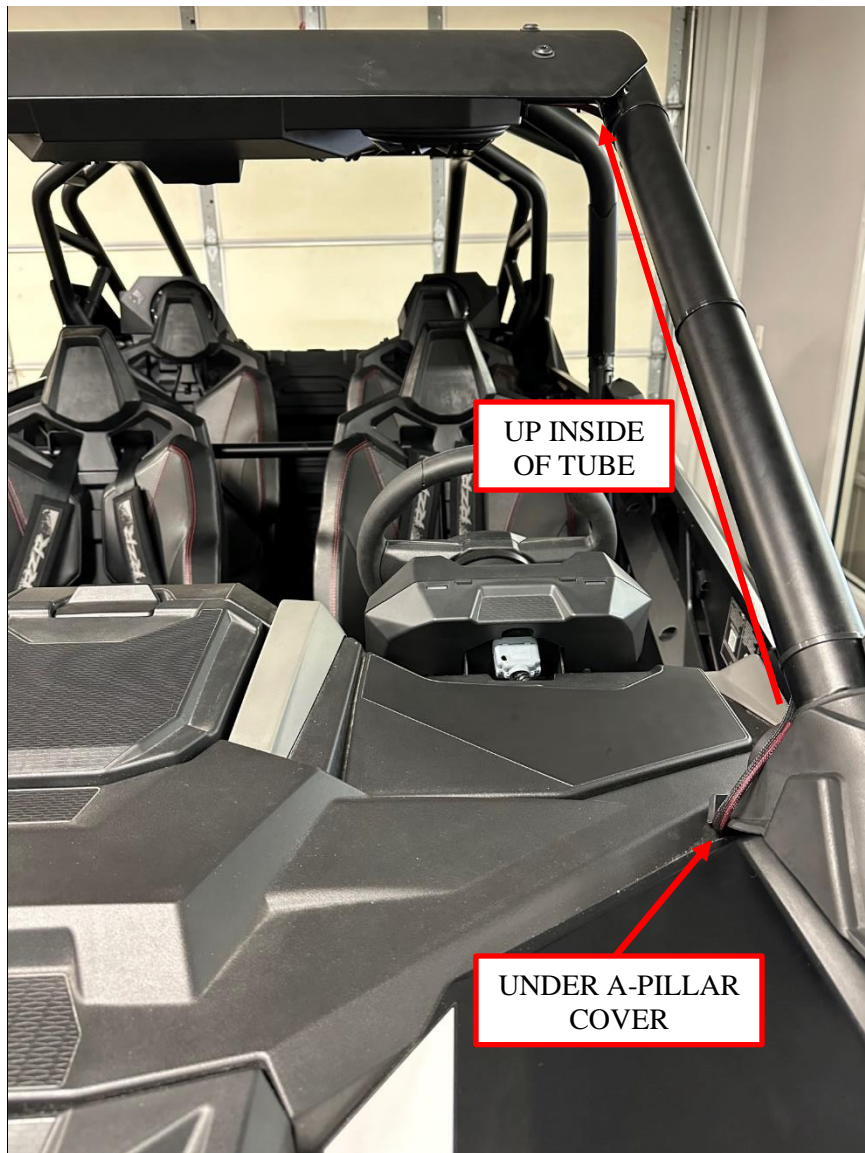
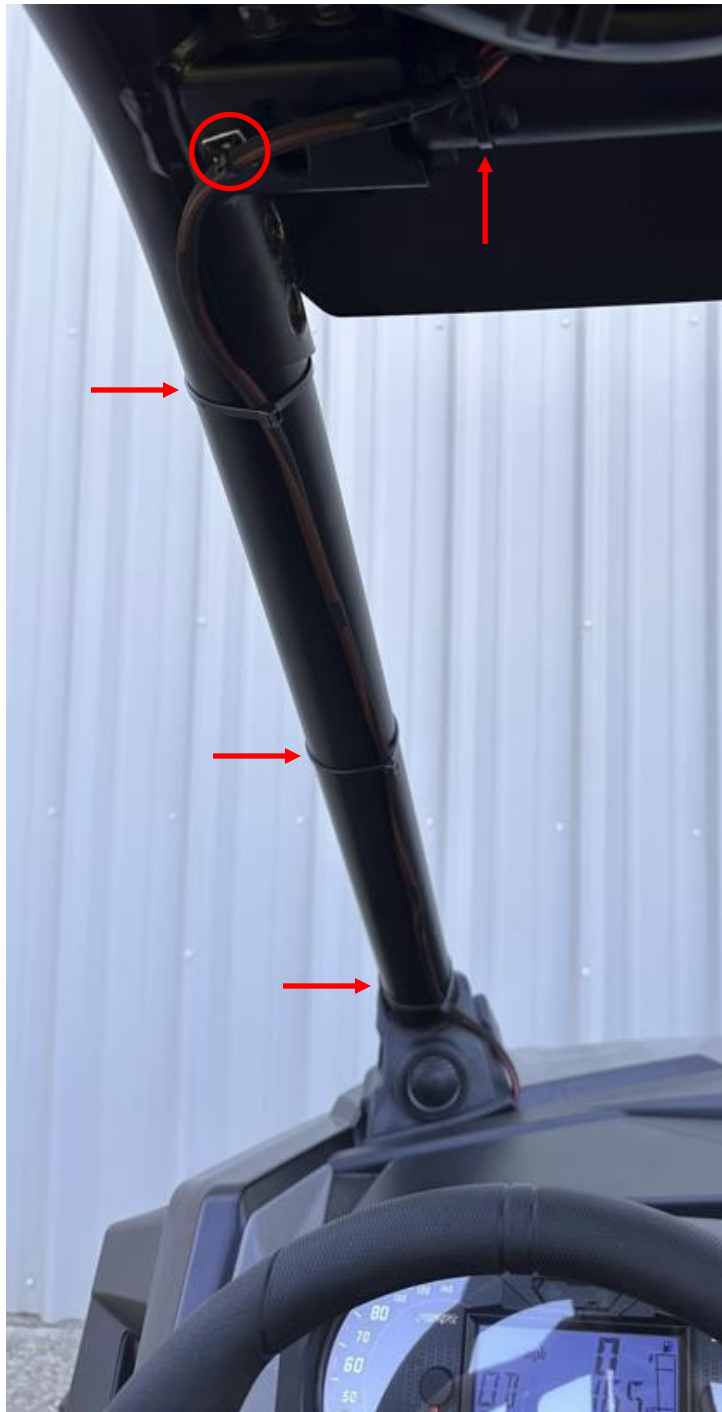

Figure 15: Harness routing path through opening up the A-pillar.
Figure 16: Harness A-pillar routing to the Audio Mini.
15. Gently route the mating connector under the base of the A-pillar cover, then route the harness up the inside of the driver's A-pillar to the mating connector on the *Audio Mini*. Place zip ties and the zip tie base at indicated locations. Use the provided alcohol wipe to clean the cage before applying the zip tie base. See Figure 15 and Figure 16.